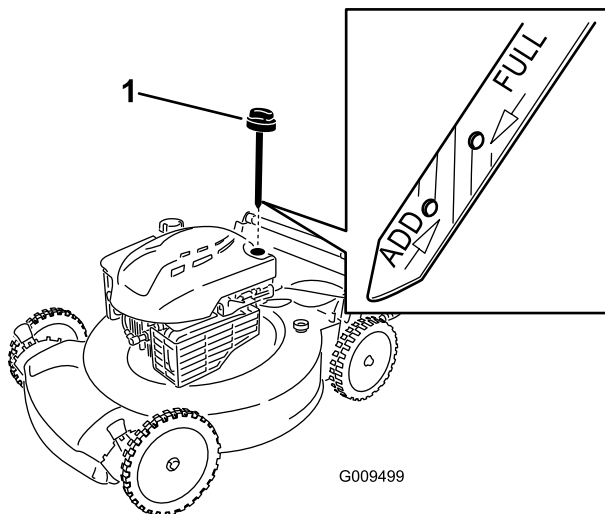

Figure 4
2. Remove the dipstick (Figure 4).
3. Slowly pour oil into the oil fill tube until the oil level reaches the Full line on the dipstick (Figure 4). Wait 3 minutes after adding oil to check the oil level with the dipstick. Do not overfill. (Max. fill: 20 oz. (0.59 l), type: SAE 30 detergent oil with an API service classification of SF, SG, SH, SJ, SL, or higher.)